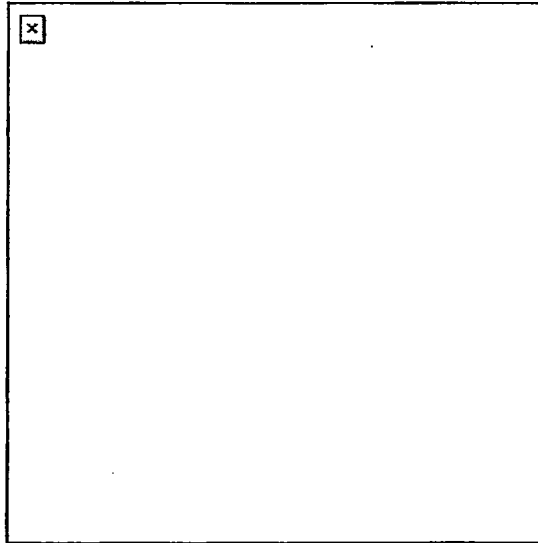

Figure 9. Standing-without-support position.
- d. Standing-without-support position (Figure 9). To assume this position--
- (1) Face the target.
- (2) Place your feet a comfortable distance apart.
- (3) Wrap your nonfiring hand around the fist or wrist of your firing hand. Lock the wrist and elbow of your firing arm toward the target.
- (4) Keep your body straight.